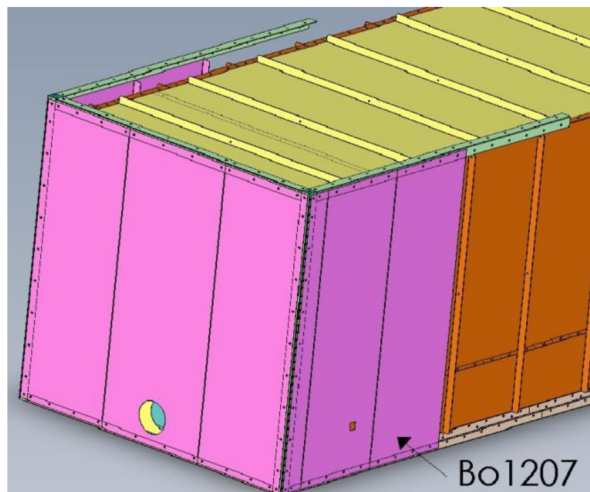

Figure 18
17) Start installing panels BO-1207 on both sides of the oven. **See figure 18.**